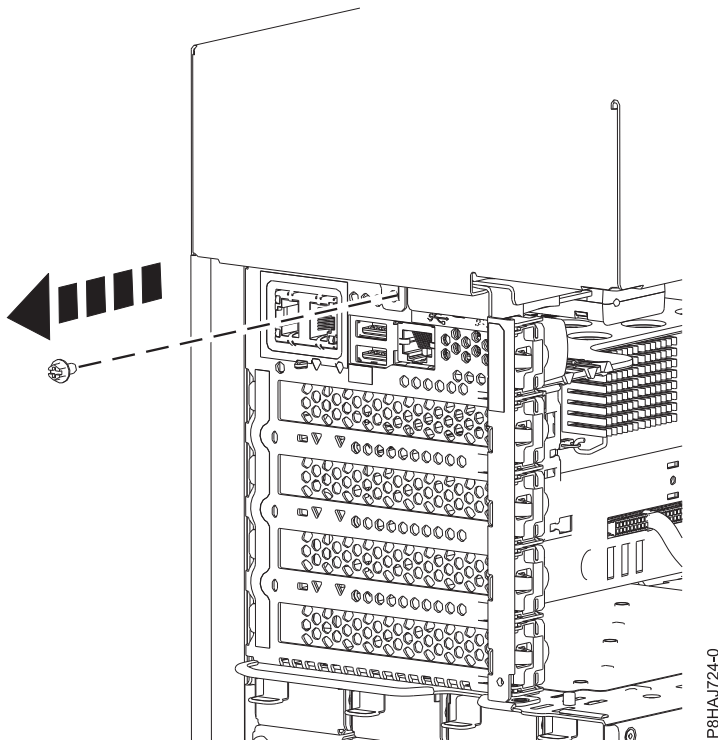

Figure 12. Removing the screw from the 8286-41A side cover
4. Remove the rear screw from the side cover by using a Phillips screwdriver as shown in Figure 12.